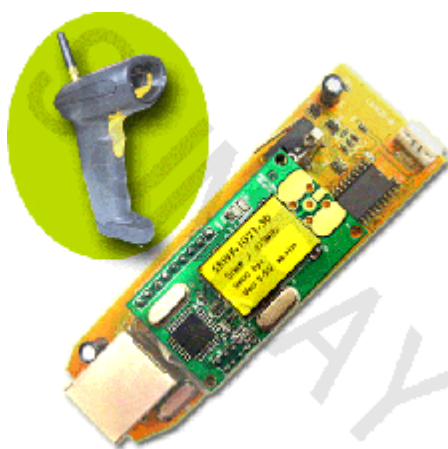

Fig. 4
3. Put the module and the mainboard of scanner to the scanner's rabbet, the laying position of module is shown as Figure 4.